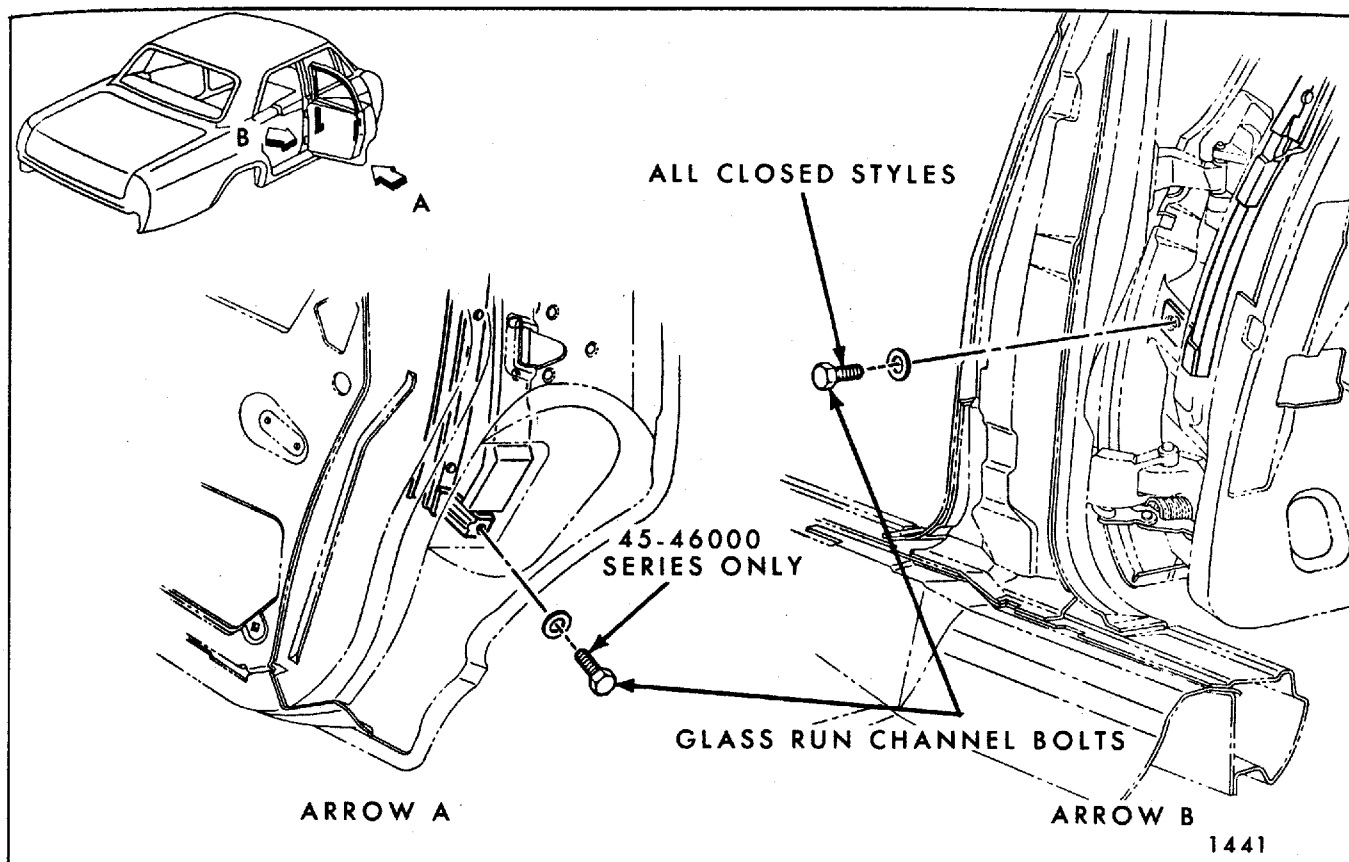

Fig. 7-150—Glass Run Channel Retention "B" Closed Styles
2. Remove glass run channel front attaching bolt located on door hinge pillar (arrow "B", Fig. 7-150).
3. On 45-46000 Series, remove glass run channel rear lower attaching bolt located on door lock pillar (arrow "A", Fig. 7-150).